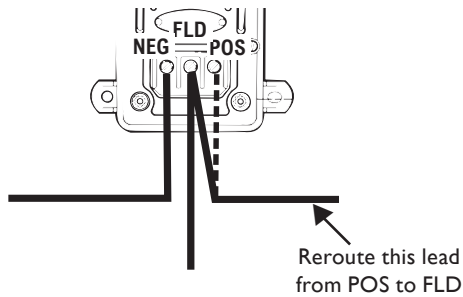

Figure 2 – 50-RD Regulator Modification
- 50-RD regulator – see Figure 2. Disconnect POS lead at POS terminal on regulator and reconnect to FLD terminal on regulator. Torque #10-32 screw to 2.3 Nm/20 lb. in.